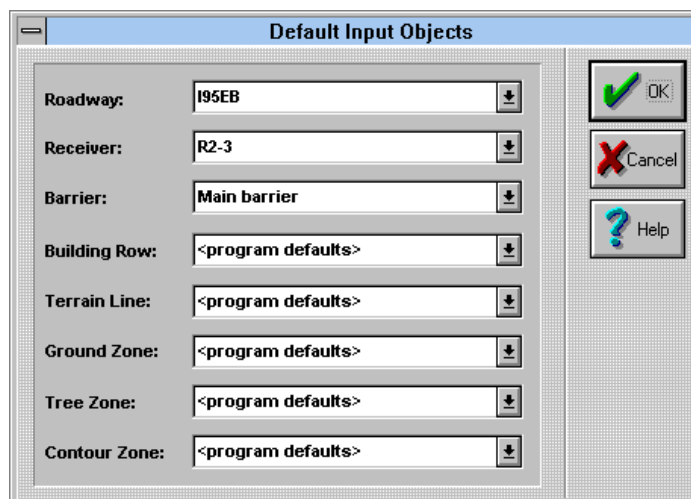

Figure 18. List of current default input objects.
4. Select Setup, Defaults for Objects from the main menu (see Figure 18).